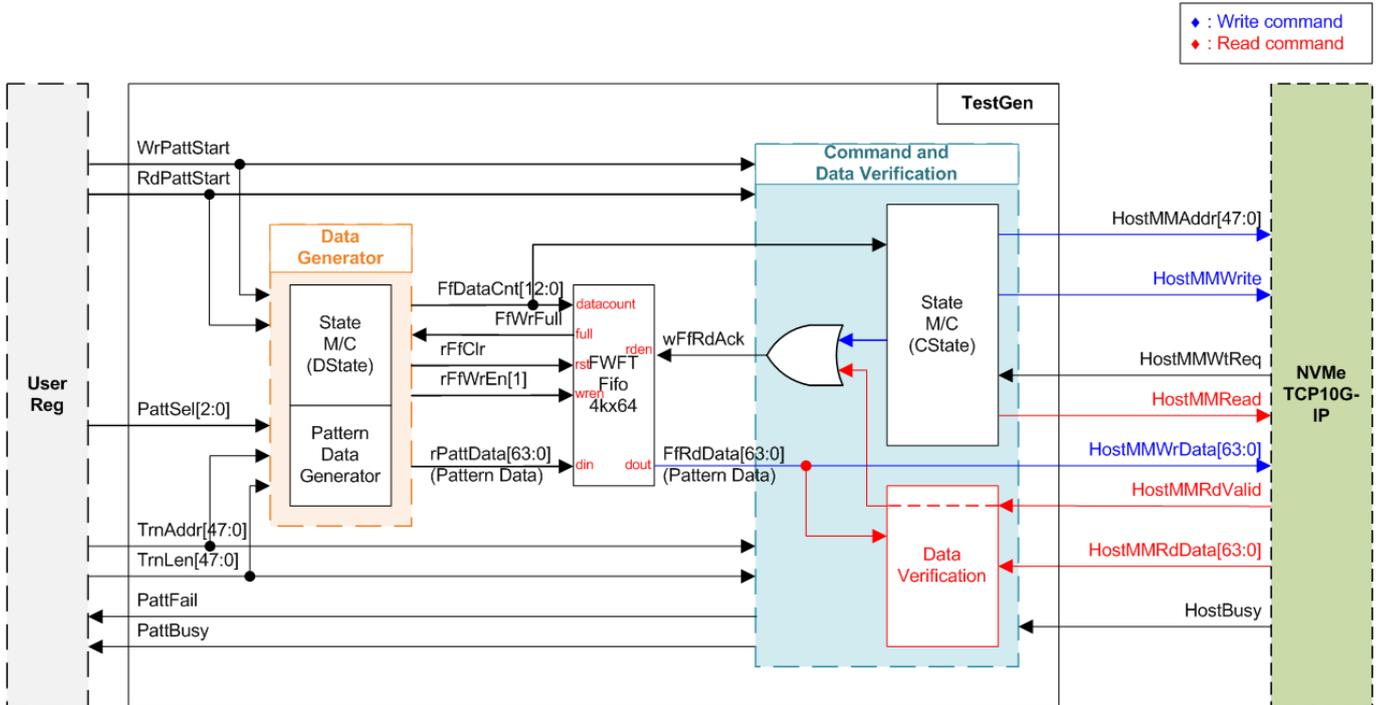

Figure 2-2 TestGen Interface
- (1) stCIdle: This state is designed to wait Write or Read Request (WrPattStart or RdPattStart) from user. When user starts the test along with test parameters, i.e., total transfer size (TrnLen: 512-byte unit), start transfer address (TrnAddr: 512-byte unit), and test pattern (PattSel), the logics load the first value from test parameters. Moreover, PattBusy is asserted to '1' to indicate that the test is running. If user starts the reading test by asserting Read Request (RdPattStart), state continues to stCRdTrn (2). On the other hand, if user starts the writing test by asserting Write Request (WrPattStart), state continues to stCWrWt (3).
- (2) stCRdTrn: In this state, Read Command (HostMMRead) is sent to NVMeTCP10G-IP in HostMM interface along with the start read address (HostMMAddr) of each 4-Kbyte transferring. After sending the last Read Command, state continues to stCWtEnd (6) to wait until all read data is returned and IP finishes the operation.
- (3) stCWrWt: This state is designed to wait until data is enough in FIFO via checking FIFO Data Counter (FfDataCnt). If the data in FIFO is more than or equal to 4 Kbytes (1 burst size), state continues to the next step.
- (4) stCWrTrn: This state is designed to read 4-Kbyte FIFO data and send them out as Write Data (HostMMWrData) to NVMeTCP10G-IP along with the Write Command (HostMMWrite). When write command and write data are received (HostMMWrite='1' and HostMMWtReq='0'), FIFO Read Enable (wFfRdAck) is asserted to read the next data from FIFO. The FIFO Read Data (FfRdData) is bypassed to be HostMMWrData (as shown in Figure 2-2). At the first clock cycle of this state, the first 64-bit Write Data (HostMMWrData), the address (HostMMAddr), and Write Command (HostMMWrite) are sent to the IP. After the 511th of 64-bit Write Data (HostMMWrData) is sent to the IP, state continues to the next step.
- (5) stCWrChkFf: This state is designed to send the last 64-bit Write Data (HostMMWrData) of the current 4-Kbyte transferring. Moreover, state machine checks data amount in FIFO via checking FIFO Data Counter (FfDataCnt) for next 4-Kbyte bursting decision. After the last 64-bit Write Data (HostMMWrData) of the current 4-Kbyte transferring is sent, state exit choices are considered as follows.
- a. If the current 4-Kbyte Write Data is not the last 4 Kbytes of the Write Command and data amount in FIFO is not enough for the next round, state continues to stCWrWt (3) to wait until Data Generator fills more data to the FIFO. This state transition triggers the logics to de-assert Write Command (HostMMWrite) to '0'.
- b. If the current 4-Kbyte Write Data is not the last 4 Kbytes of the Write Command and data amount in FIFO is enough for the next round, state continues to stCWrTrn (4). This state transition allows the logic to start sending the next 4-Kbyte data continuously after finishing transferring current 4-Kbyte data without de-asserting Write Command (HostMMWrite) to '0'.
- c. If the current 4-Kbyte Write Data is the last 4 Kbytes of the Write Command (indicated via rMMLenCnt), state continues to stCWtEnd (6). Also, Write Command (HostMMWrite) is de-asserted to '0' to end the writing test.